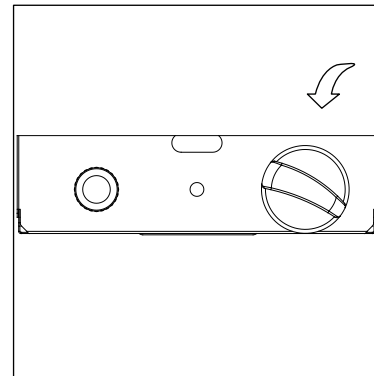

Figure 5
8. Turn the control knob to "HIGH", then release control knob. If you want a lower temperature, push in the control knob and turn counterclockwise to the "LOW" position. (*Figure 5*).